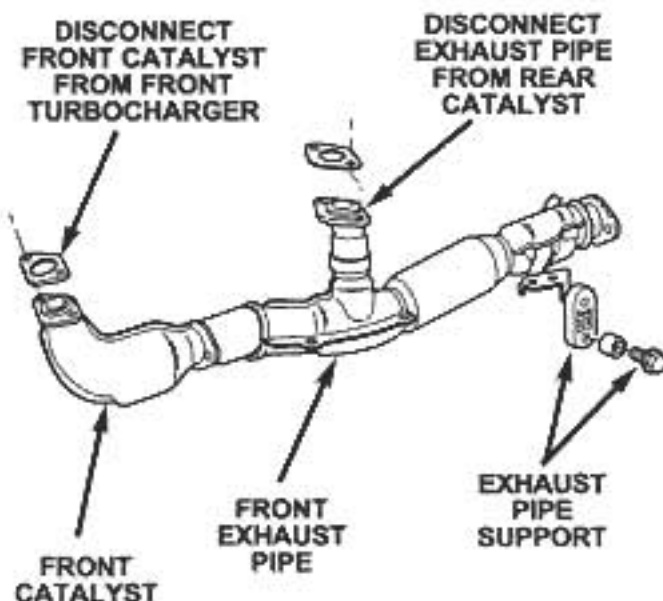

Figure 26
3. Remove the two nuts that secure the exhaust pipe to the rear turbocharger-mounted catalytic converter (Figure 26). Discard the nuts.
4. Remove the two nuts that secure the front catalytic converter to the turbocharger outlet (Figure 26). Discard the nuts.
5. Disconnect the front exhaust pipe support (Figure 26). Disconnect the front exhaust pipe and temporarily support the front exhaust pipe with a wire or bungee cord.
- Remove the temporary exhaust pipe support and then using the supplied exhaust gaskets and nuts, reconnect the front exhaust pipe to the front turbocharger outlet and the rear catalytic converter (Figure 26). Tighten the exhaust nuts to 37 ft-lbs (50 N·m).
- Connect the front exhaust pipe support (Figure 26).